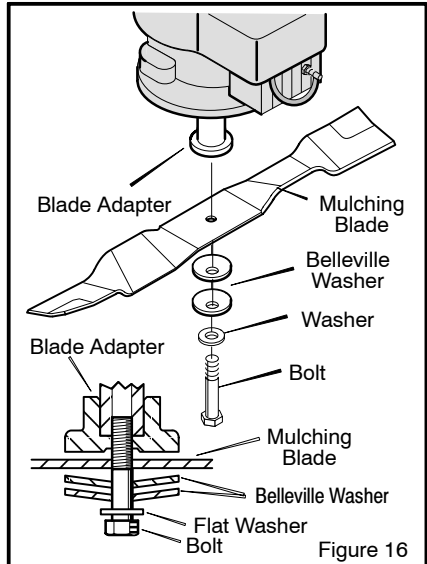

Figure 16
7. Fasten the **blade** with the original **washers** and **bolt**. Make sure the outside rims of the **Belleville washers** are toward the **blade** (Figure 16).